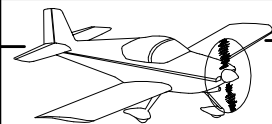

**FIGURE 2: REINFORCEMENT PLATE RIVETS**
**Step 4:** Repeat step 3 for the R-607PP Reinforcement Plate (as located on Page 7-5, Figure 2) using the same rivets and an additional nutplate.
**Step 5:** Back rivet (see Section 5F) all the R-1015 Stiffeners to the R-1001 Skins, as shown in Figure 2, using the rivets shown on page 7-12, Figure 3. Riveting tape, which is very useful for holding rivets in place while back-riveting, is available from the Van's Aircraft Accessories Catalog.